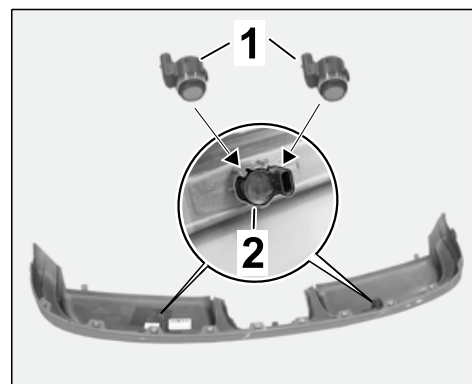

Figure 35
Fit painted ParkAssist sensors ⇒ *Figure 35*
-1- into the glued-in holder ⇒ *Figure 35* -2-